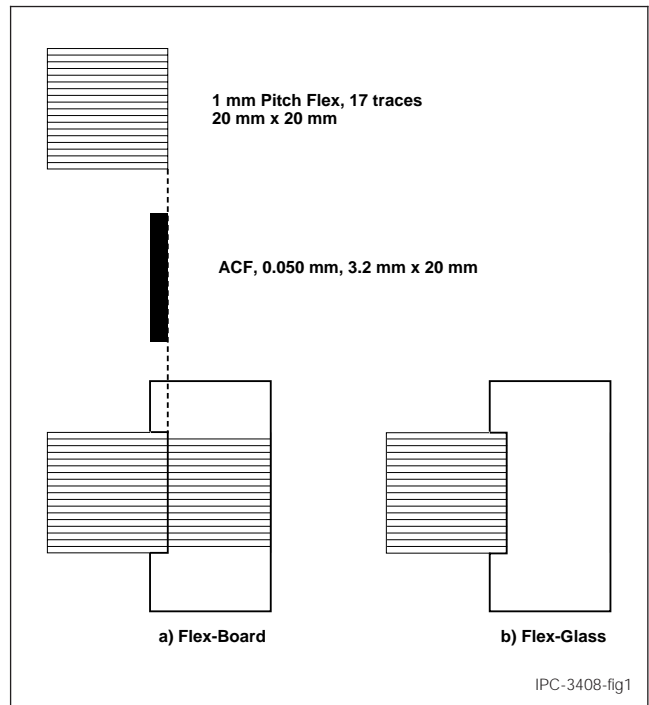

Figure 1 Sample Pattern
5.1.1 Cut flex test circuits to the appropriate length (see Figure 1).